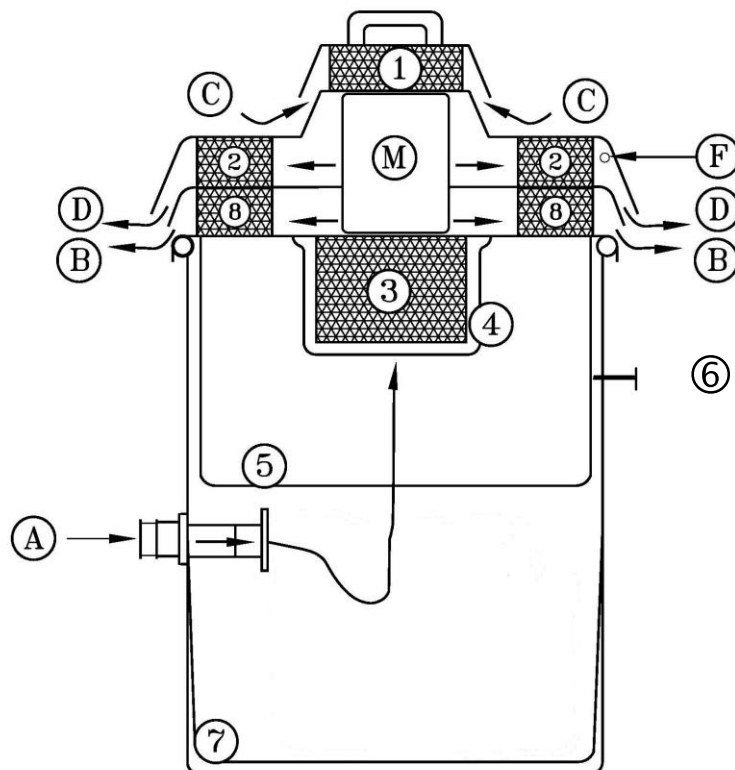

Figure 1
2. Place the poly liner (item # 7 on Fig. 1) at the bottom of the tank
3. Place the main cloth filter (item # 5 on Fig. 1) on the recovery tank. Make sure that the filter's gasket covers the circumference of the recovery tank lip.
11.1 REPLACEMENT OF THE HEPA FILTER FOR MOTOR COOLING AIR INTAKE (ITEM #1 ON FIG. 1 SEE SECTION 8 FOR ILLUSTRATION)
11.2 REPLACEMENT OF THE HEPA FILTER FOR MOTOR COOLING AIR EXHAUST (ITEM #2 ON FIG. 1 SEE SECTION 8 FOR ILLUSTRATION)
11.3 HEPA FILTER FOR WORKING AIR EXHAUST (ITEM #8 ON FIG. 1 SEE SECTION 8 FOR ILLUSTRATION)
11.4 HEPA FILTER FOR WORKING AIR INTAKE (ITEM #3 ON FIG. 1 SEE SECTION 7 FOR ILLUSTRATION)